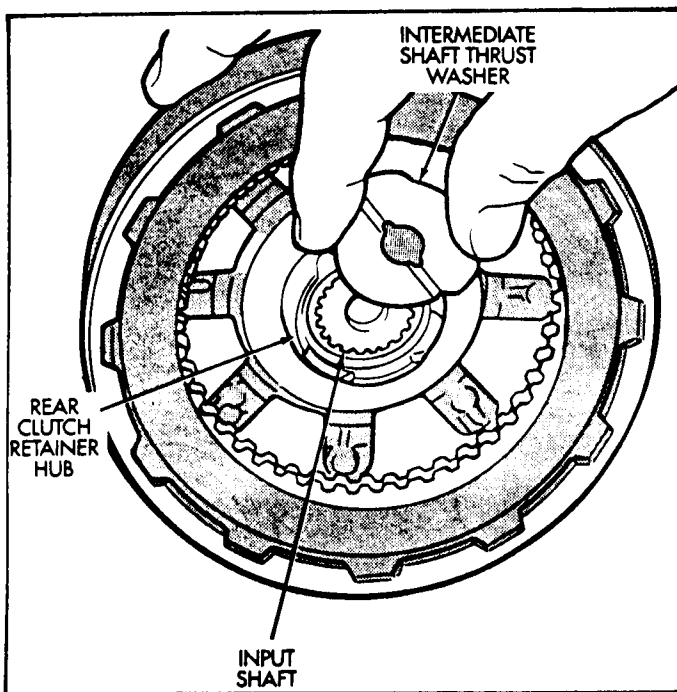

Figure 20
32. Remove intermediate shaft thrust washer from front end of shaft, or from rear clutch drum (See Figure 20).